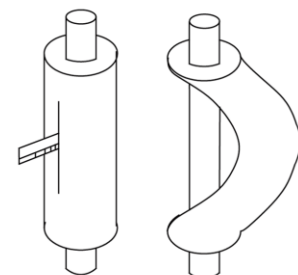

Fig. 12
- (2) Do not bend the pipe over 90°.
- (3) If pipe is repeatedly bent or stretched, it will get hard and difficult to bend and stretch again. Therefore, do not bend or stretch the bend for over 3 times.
- (4) In case that direct bending will open cracks to the pipe, first use sharp cutter to cut the insulating layer, as shown in Fig.12. Do not bend the pipe until it is exposed. When bending is done, wrap the pipe with insulating layer and then secure it with adhesive tape.